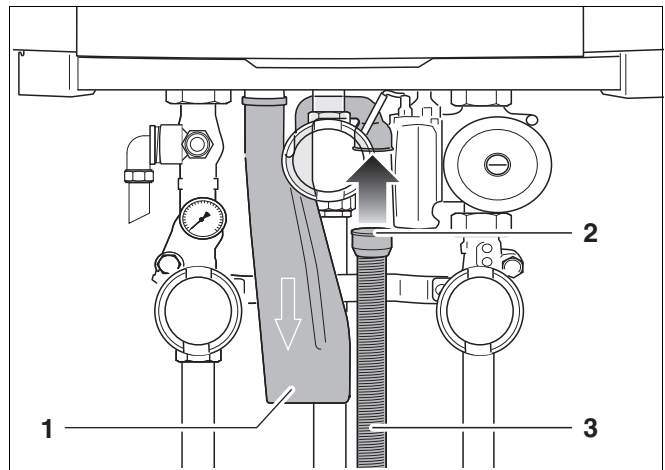

fig. 15 Installing the syphon hose
- Connect the syphon hose (fig. 15, **item 3**) and the rubber sleeve (fig. 15, **item 2**) to the syphon (fig. 15, **item 1**).